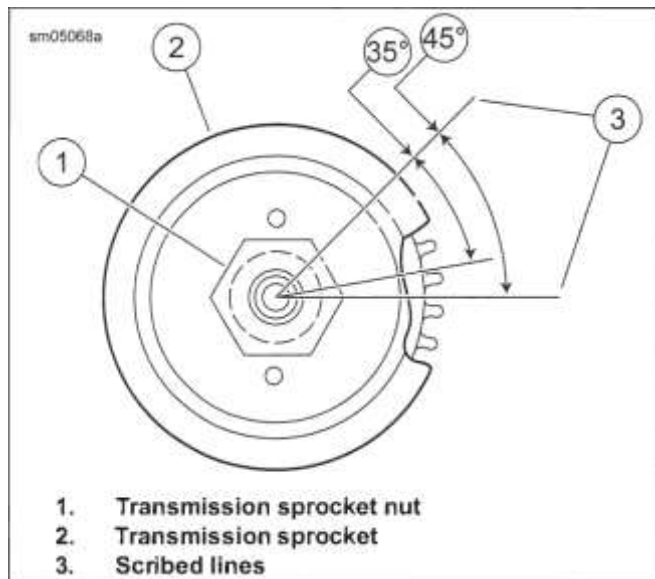

Figure 5-39. Transmission Sprocket Nut Final Tightening
5. See Figure 5-39. Scribe lines (3) or use torque angle gauge for final torque.